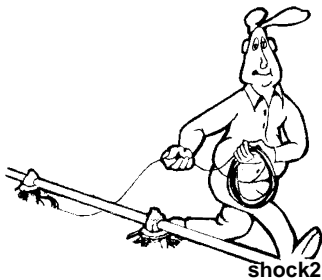

Figure 47. Unrolling the Cable
1. Unroll the bulk anti-roost cable. Note: If the cable is unrolled as shown in **Figure 47** taking 5 loops of the coil with one hand, then changing hands to remove 5 loops as it is unrolled, it will lie flat during installation.